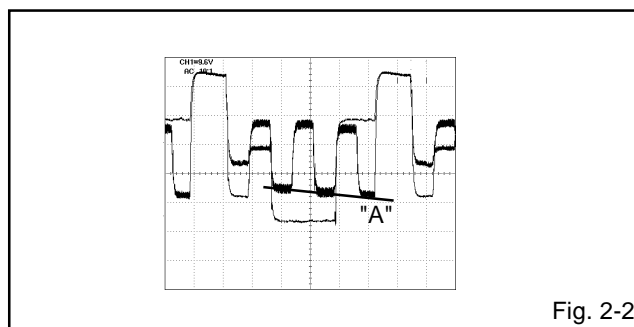

Fig. 2-2
5. Press the RIGHT/LEFT button on the remote control until the section "A" becomes a straight line. **(Refer to Fig. 2-2)**
10. Press the RIGHT/LEFT button on the remote control until the section "A" becomes a straight line. **(Refer to Fig. 2-2)**